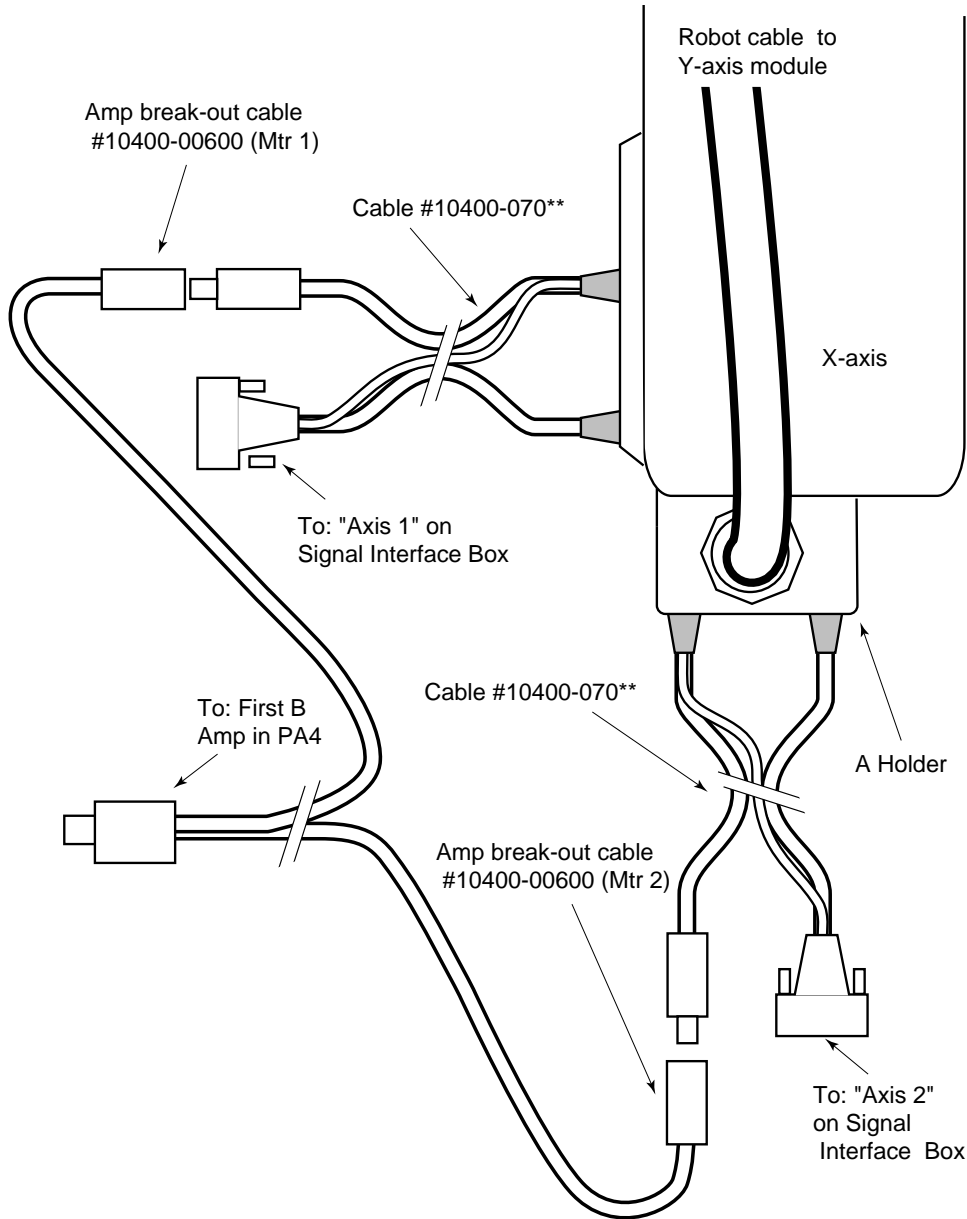

Figure 4-22. Connecting to an Adept MV Controller
- a. Connect the two barrel ends of the cable to the X-axis module as shown in Figure 4-22. These connectors have different pin sizes and cannot be installed incorrectly.
- b. Attach the A holder end of the robot cable to the motor end face of the X-axis module as shown in Figure 4-22 (refer to Section 4.3 for holder mounting).
- d. Connect the two barrel ends of the controller cable to the Y-axis module as shown in Figure 4-22. These connectors have different pin sizes and cannot be installed incorrectly. The other ends connect to the controller connections marked “2-CN6 MOTOR 2” and “2-CN5 SENSOR 2”.